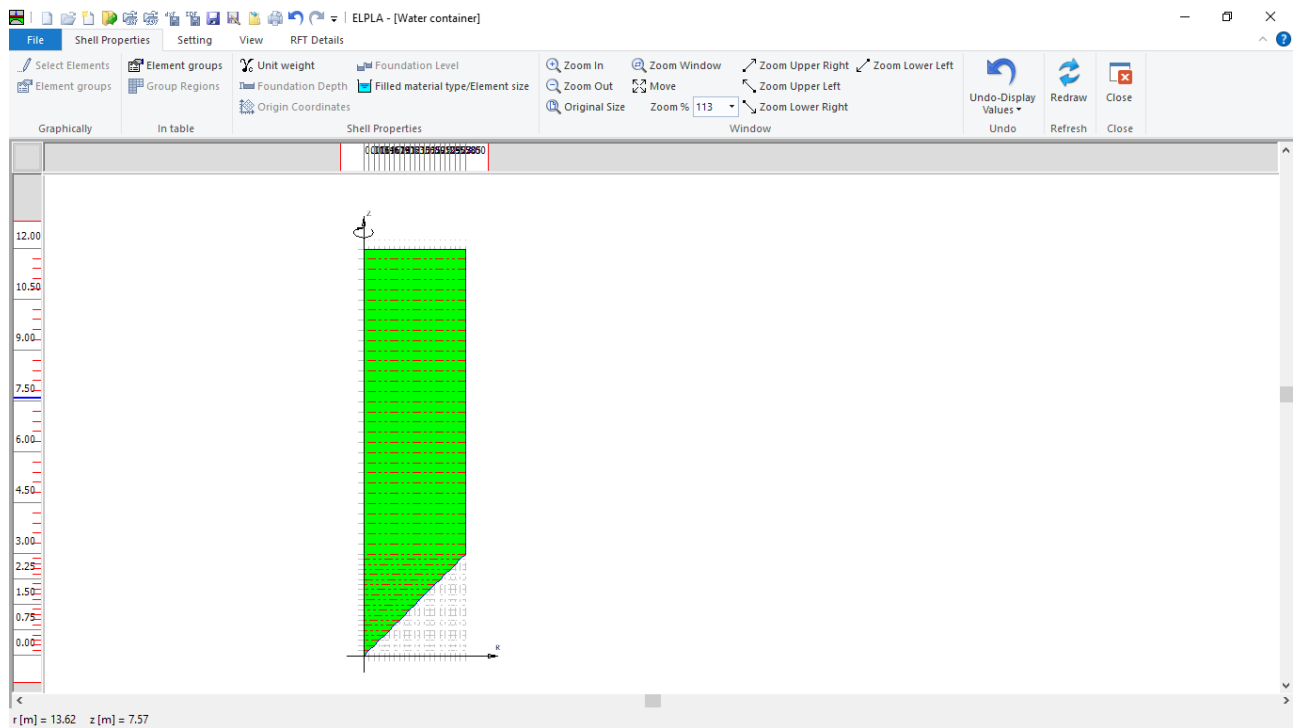
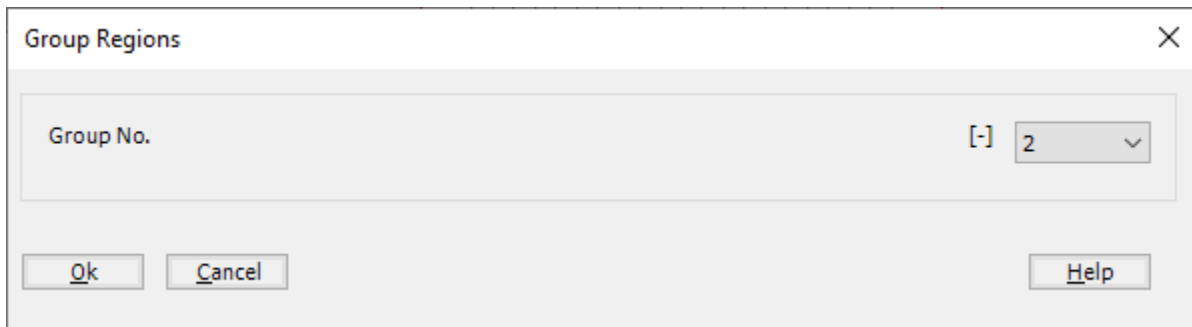
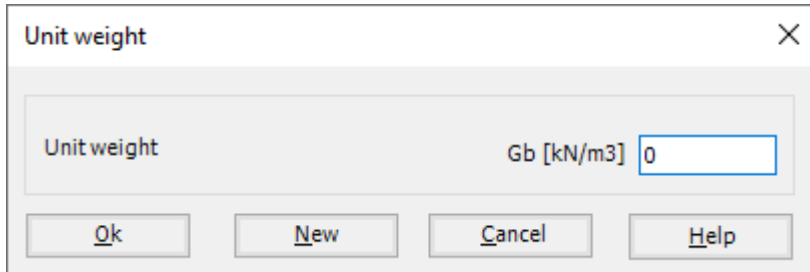

Figure 10.10 "Shell Properties" Window
Figure 10.13 "Group Regions" dialog box
Figure 10.14 "Unit weight" dialog box
To define the tank properties, choose "Shell Properties" command from "Data" Tab. The following window in Figure 10.10 appears with default shell properties. The data of shell properties for the current example, which are required to be defined, are element groups, group regions, unit weight of the tank, and the filled material properties.
- Choose "Select Elements" command from "Graphically" menu in the window of Figure 10.10
- Choose "Elements Groups" command from "Graphically" menu in the window of Figure 10.10, "Group Regions" dialog box Figure 10.13 appears
To enter the unit weight of the container, choose "Unit weight" command from "Shell Properties" menu in Figure 10.10. The following dialog box in Figure 10.14 with a default unit weight of 25 [kN/m3] appears, type 0 in the "Unit weight" edit box to neglect the self-weight of the tank, then click "OK" button.
To define the filled material properties of the container, choose "Filled material type/Element size" command from "Shell Properties" menu in Figure 10.10. The following form in Figure 10.15 appears.